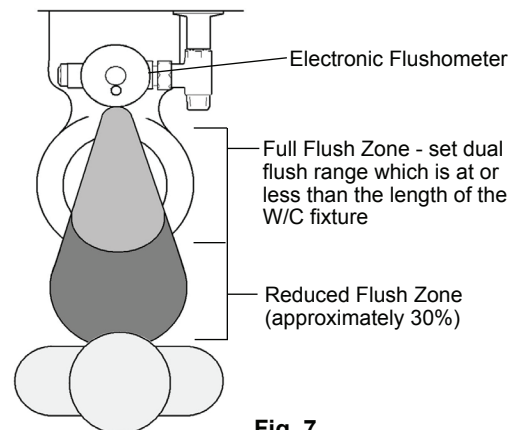

Fig. 7
- **To turn Dual Flush Mode ON** - while in dual flush adjustment mode, press the override button so that 2 or more red lights are present. Refer to Figure 6 for different dual flush range settings. Ensure that a proper dual flush range is selected which is at or less than the length of the water closet fixture. This way a user standing in front of the fixture will produce a reduced flush as opposed to a full flush. See Figure 7.